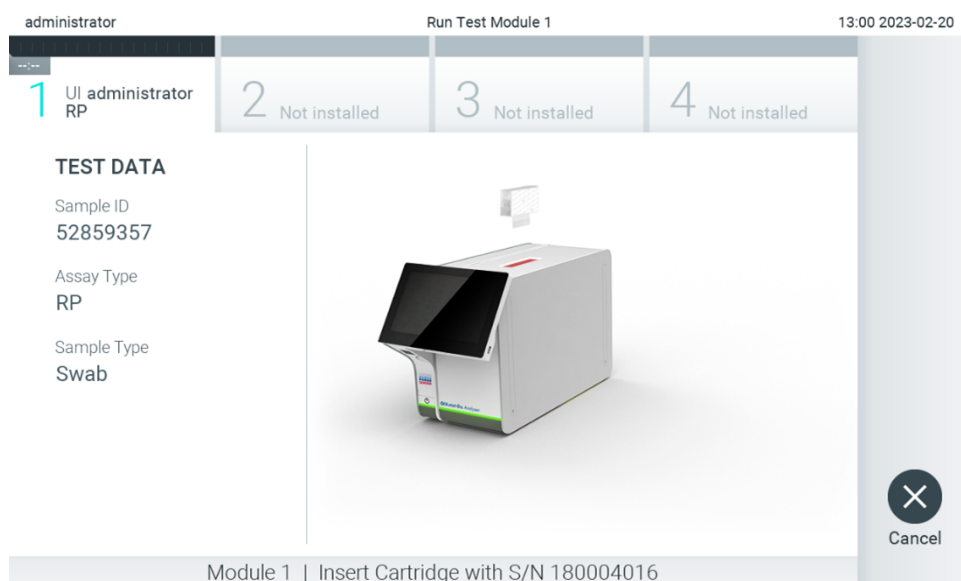

Figure 27. Inserting QIAstat-Dx assay cartridge into QIAstat-Dx Analyzer 2.0.
7. Make sure that both sample lids of the swab port and main port of the QIAstat-Dx assay cartridge are firmly closed. When the cartridge entrance port on the top of the QIAstat-Dx Analyzer 2.0 automatically opens, insert the QIAstat-Dx assay cartridge with the bar code facing to the left and the reaction chambers facing down (Figure 27).